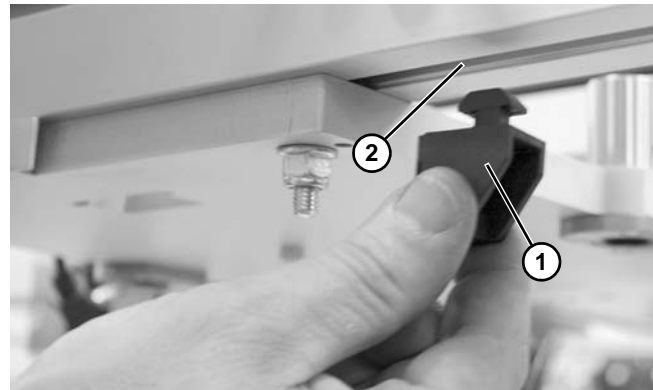

Figure 30
1. Insert mounting block (**Figure 30, item 1**) into conveyor channel (**Figure 30, item 2**) on both sides of lift and transfer station. Repeat for opposite conveyor.